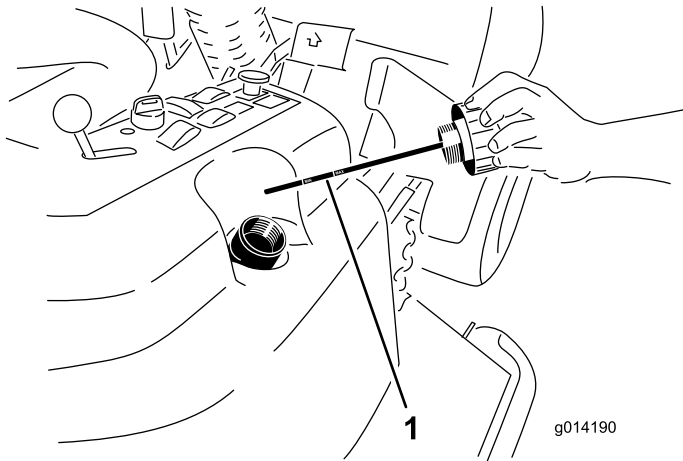

Figure 76
4. Remove the hydraulic-filler cap (Figure 76) from the filler neck.
5. Remove the dipstick and wipe it with a clean rag (Figure 76).
6. Screw the dipstick all the way into the filler neck; then remove it, and check the level of the fluid (Figure 76).